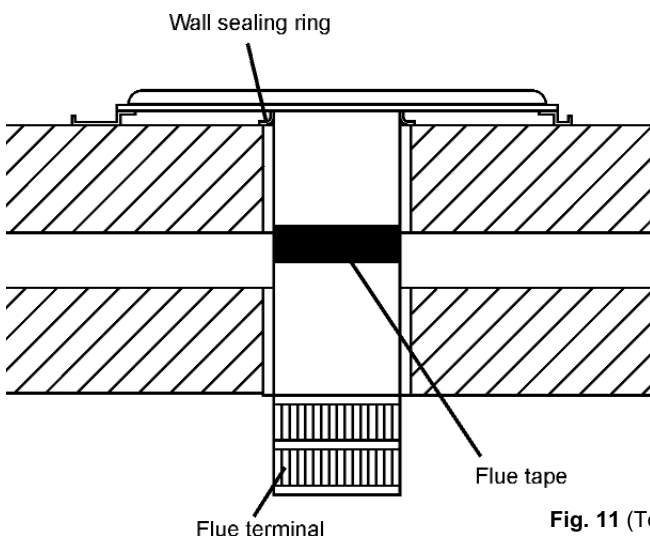

Fig. 11 (Top View)
4. Ensuring that the appliance is level, secure it to the wall using four suitable screws and washers. Check that the wall sealing ring is correctly positioned and seals against the wall (Fig. 11).
5. Ensure that the flue terminal protrudes sufficiently on the outside wall face (Fig. 11). Make good as appropriate.